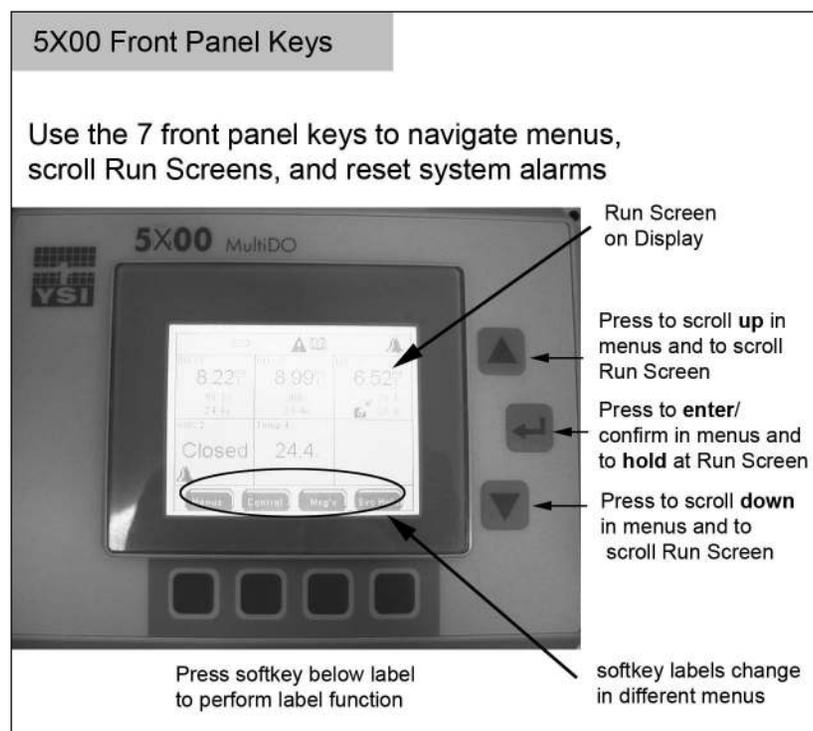

Figure 4.1
The front panel - figure 4.1, is the front component of the 5X00 enclosure. The front panel contains the 5X00 display and seven keys. Use the keys to navigate menus and instrument system information.
There are seven (7) 5X00 front panel keys - figure 4.1. Use ▲ and ▼ keys to scroll and highlight menu lists and to scroll through multiple Run Screens. Use ← key to select and enter highlighted submenu item and to hold one of multiple run screens from scrolling. Hold is not an option when there is only one run screen. Run screens can be scrolled when held by pressing ▲ and ▼ keys.